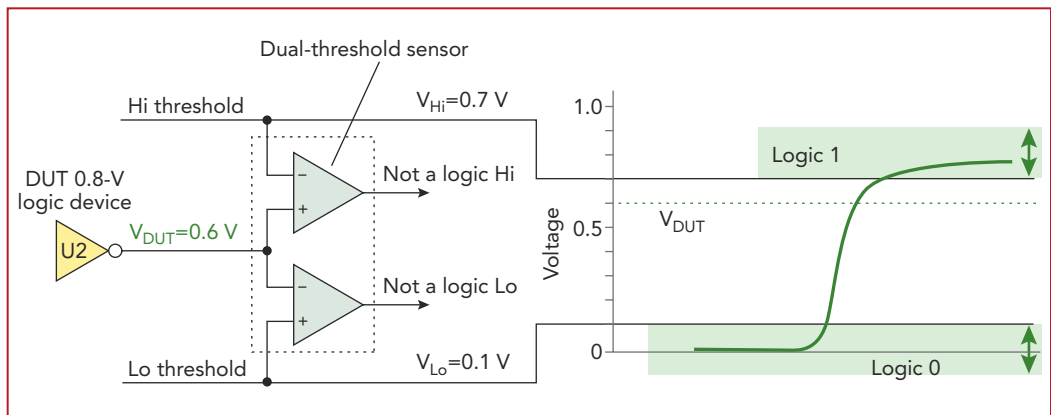

FIGURE 3. A dual-threshold sensor design identifies incorrect or marginal logic levels on a board under test.
- **Single level thresholds.** Defining only a single threshold to denote the transition from 0 to 1 ignores the fact that most devices have V_{OH_MIN} and V_{OL_MAX} specifications that create a gray area between the two. With a single threshold, a test cannot detect a faulty output transistor that can't drive high enough or low enough for reliable operation of the board in its target system. The board would have to proceed to functional or system test where diagnosing it would be more difficult. Dual-threshold sensors (Figure 3) don't have this ambiguity, so they can verify that the output transistors are functioning according to the manufacturer's specifications.